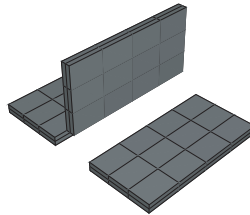

Figure 64–16 Create offset solid meshes from the non-branching regions.
3. Use display groups to show only the set containing the branch, as shown in Figure 64–17.